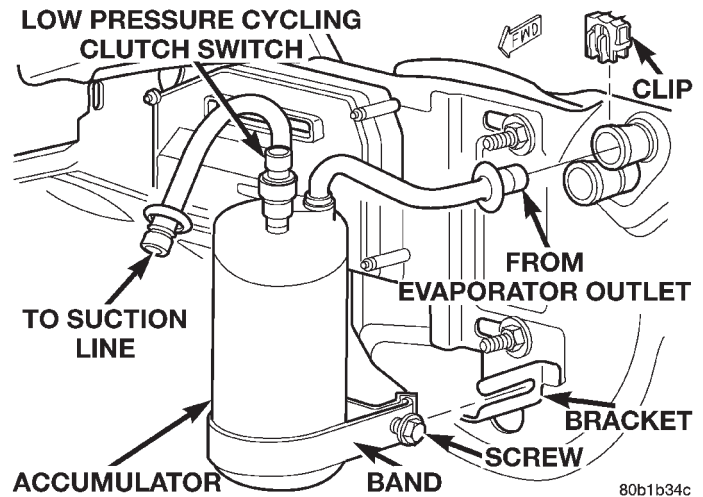

Fig. 34 Accumulator Remove/Install
(1) Disconnect and isolate the battery negative cable.
(2) Recover the refrigerant from the refrigerant system. See Refrigerant Recovery in the Service Procedures section of this group.
(3) Remove the low pressure cycling clutch switch from the accumulator. See Low Pressure Cycling Clutch Switch in the Removal and Installation section of this group for the procedures.
(4) Loosen the screw that secures the accumulator retaining band to the support bracket on the dash panel (Fig. 34).